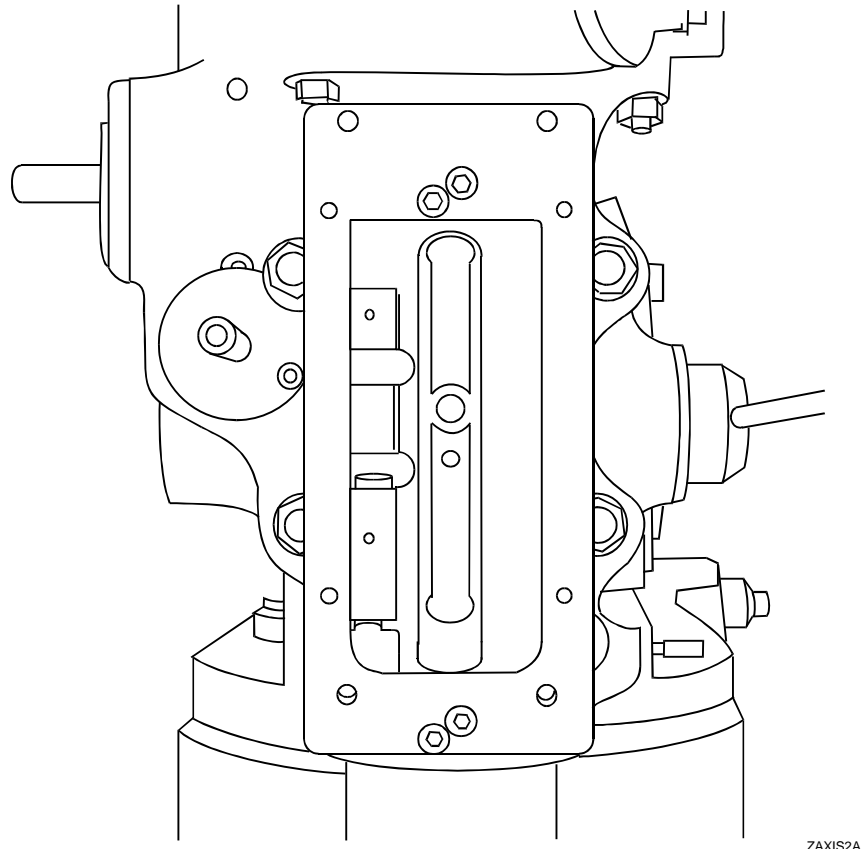

Figure 3-22, Installing the Z-Axis Mounting Plate
1. Refer to **Figure 3-22, Installing the Z-Axis Mounting Plate**. Scrape the paint from the two flanges on the head of the machine where the mounting plate, P/N 67200551, will be attached.